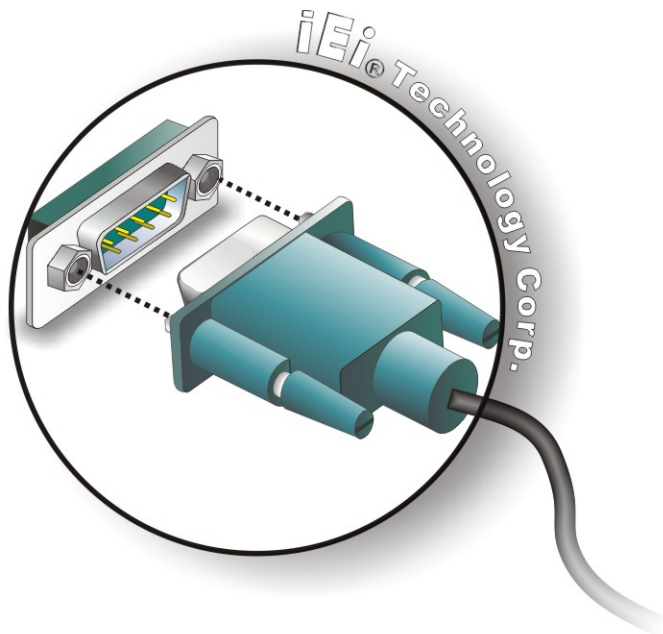

Figure 5-22: Serial Device Connector
Step 2: Insert the serial connector. Insert the DB-9 connector of a serial device into the DB-9 connector on the external peripheral interface. See **Figure 5-22**.